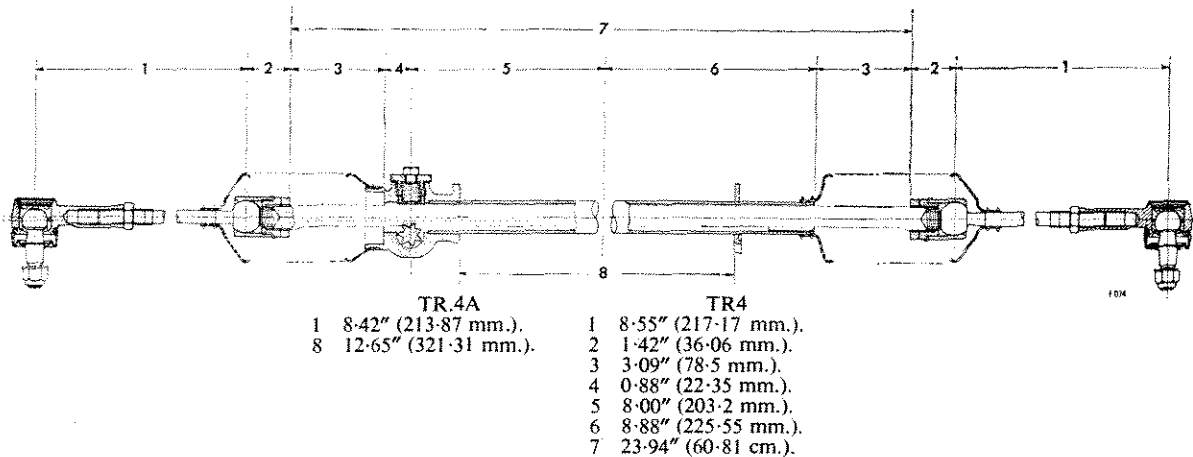

Fig. 19. STEERING UNIT DIMENSIONS
Fit a locknut (21) and spring (24) to each end of the rack (20), and screw on each outer tie-rod assembly. Adjust the position of the tie-rod assemblies on the rack (20) to dimension 7 Fig. 19. Tighten the locknut to maintain this position.